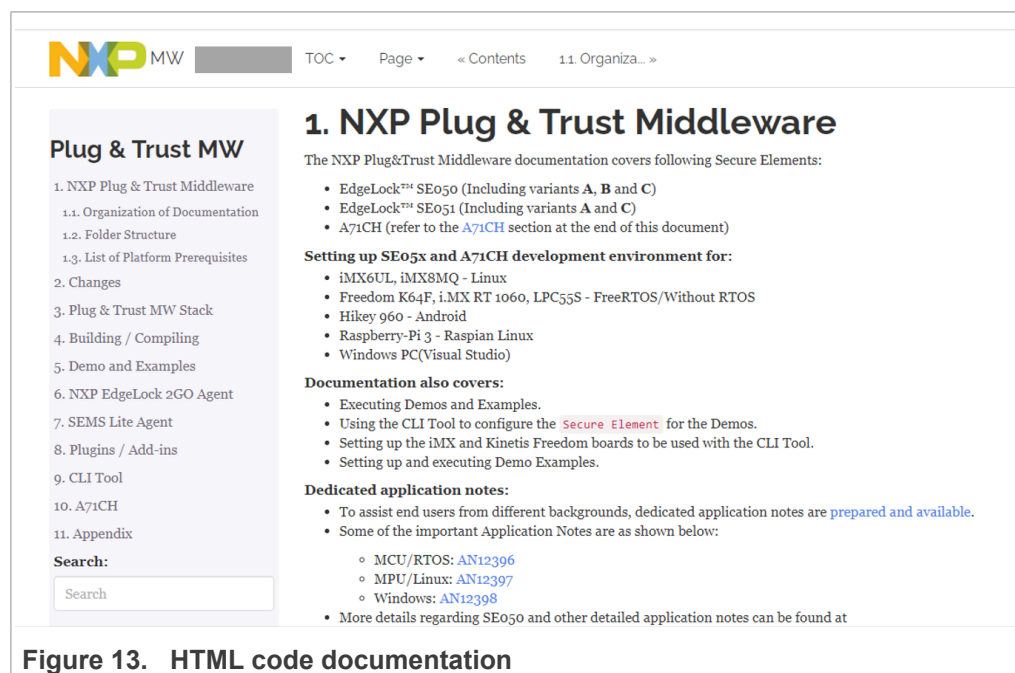

Figure 13. HTML code documentation
5. A browser with the documentation landing page will open as shown in Figure 13: